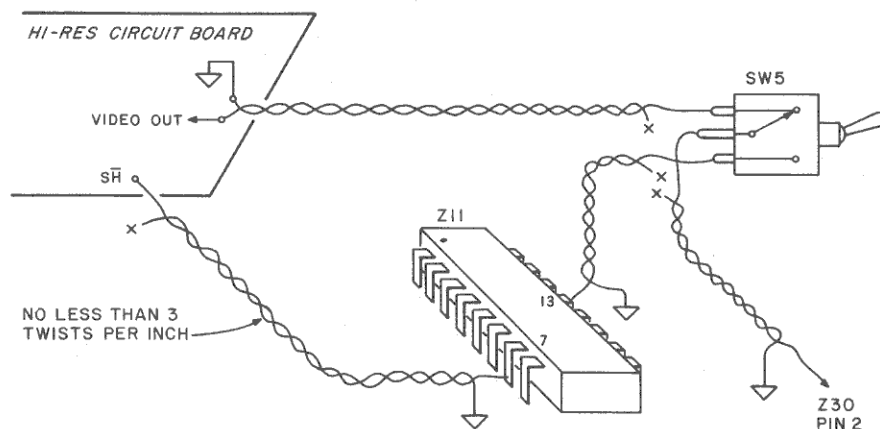

Fig. 3.
ground only one end of the grounded pair. (See Fig. 3.) Make the video out twisted pair long enough to reach one pole of SW5.
□ Referring to Fig. 3, solder one side of video out to one pole of SW5. Use twisted pair.